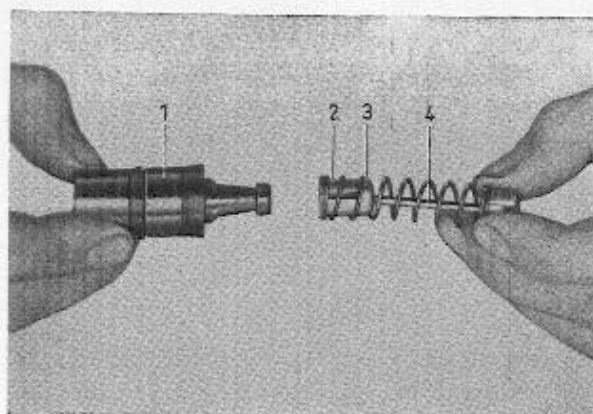

Fig. 49. Assembling the plunger.
- Fit the spring and spring retainer (3, Fig. 49) onto the push rod (4) and assemble these parts to the plunger, see Fig. 49. Then press down the locking piece (2) on the spring retainer so that the parts are held in position.